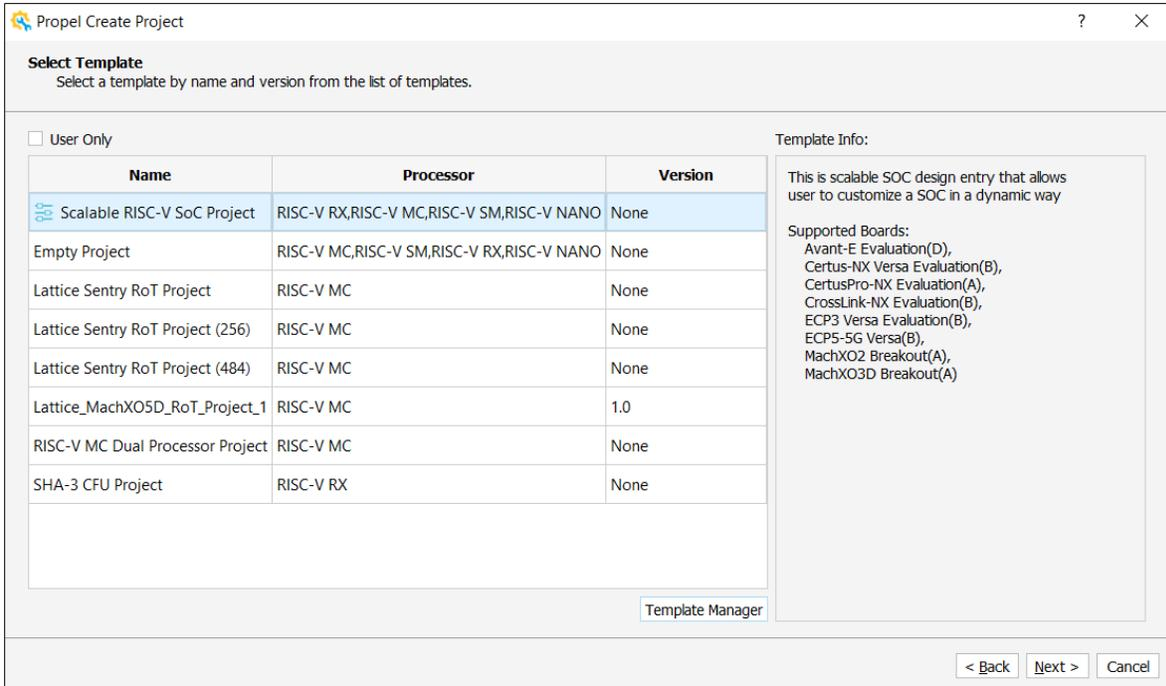

Figure 2.5. New SoC Project – Select Template
4. Click **Next**. You can get detailed information on Template in this flow (Figure 2.5).